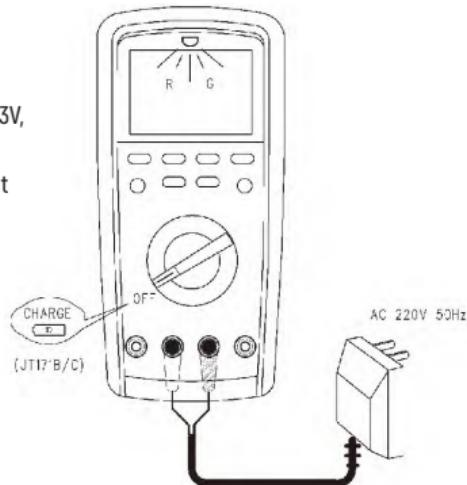

Fig. 14
* Charging of built-in lithium battery: [See Fig. 14]